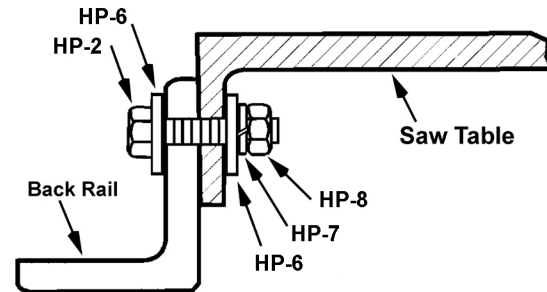

Figure 5
41. Secure remainder of back rail with 1/4 screws, flat washers, lock washers, and hex nuts (**HP-2/6/7/8**) as shown in Figure 5.